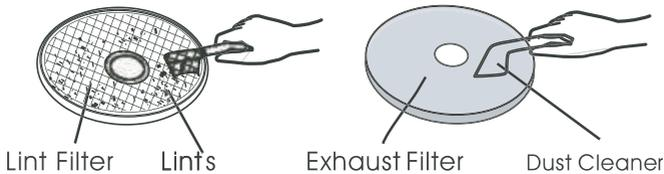

Figure 2
3. To install the hanging hook to wood plank, start at Fig. 2
Separate Exhaust Vent Shroud, Lint Filter and Exhaust Filter. Clean the lint on the Lint Filter and Exhaust Filter with a soft brush or vacuum cleaner (as shown in figure 2). Do not damage the filters.